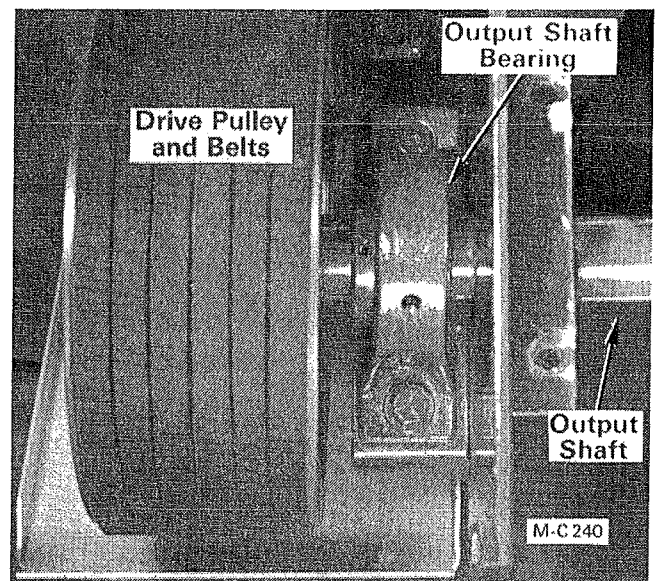

Figure 32
- Remove the top belt and output shaft guards. Adjust the output shaft bearings, Figure 32, as follows: